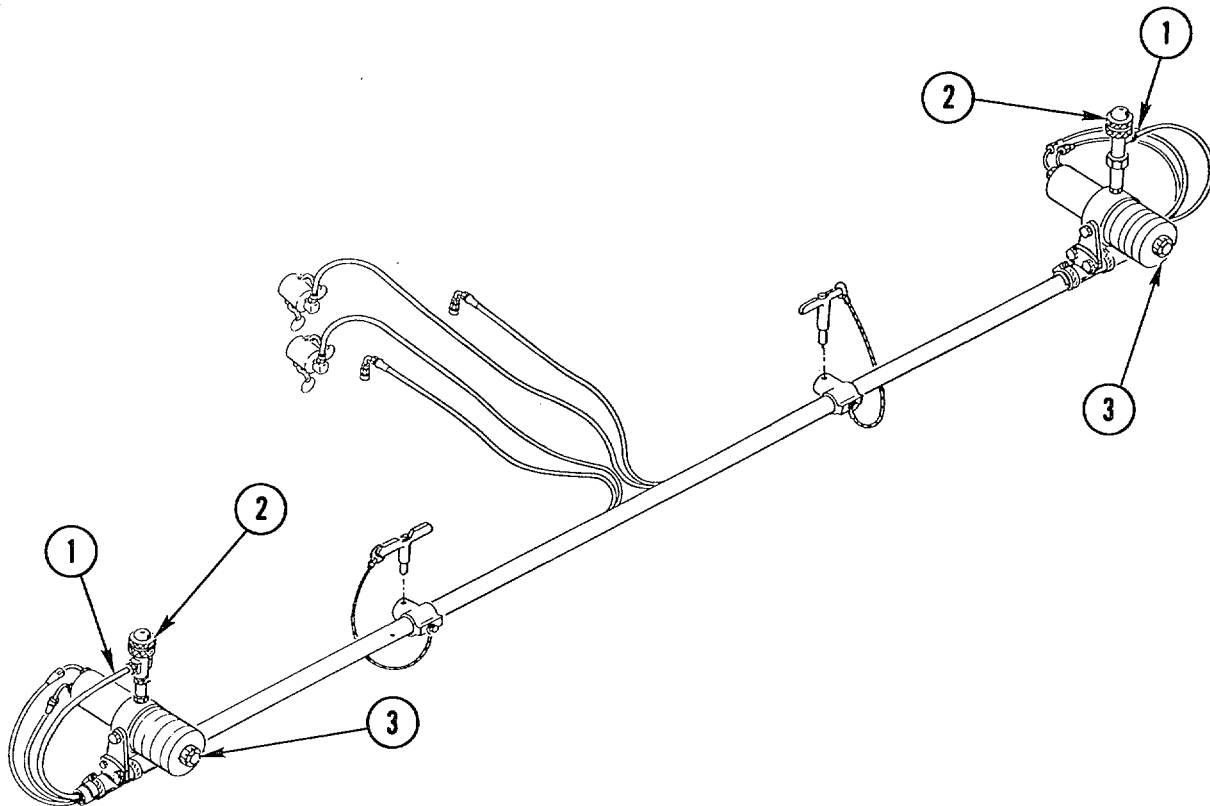

Figure 2-11. ULV System Operational Test
- (1) Fill bucket assembly with pesticide. Use sight gages on side of tank.
- (2) Connect hand control assembly to wiring harness.
- (3) On hand control, make sure SYSTEM switch is set to OFF and POWER switch is ON. Make sure gate valve is open.
- (4) Disconnect pesticide hose (1, figure 2-11) on both ends at adjuster fittings.